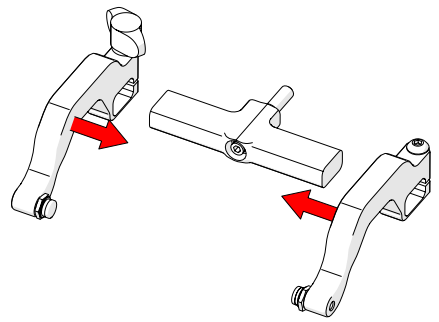

**Fig. 129** - Reverse position around yoke
4. Position removed arms to opposite sides of the yoke (*Fig. 129*).